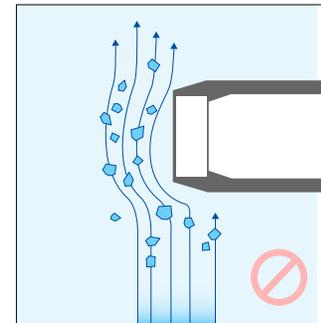
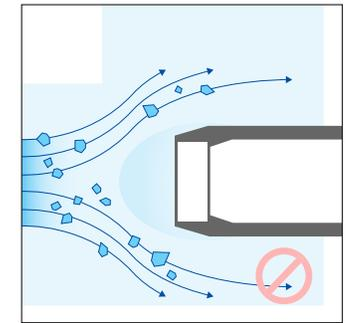

Figure 3: Non-ideal orientation—
Figure 4: Non-ideal orientation—
- Insert the probe parallel to the flow (**Figure 3**) or as a flat obstruction to the flow (**Figure 4**). Both positions create a dead zone in front of the probe window that prevents representative measurement and allows deposits to form on the window.